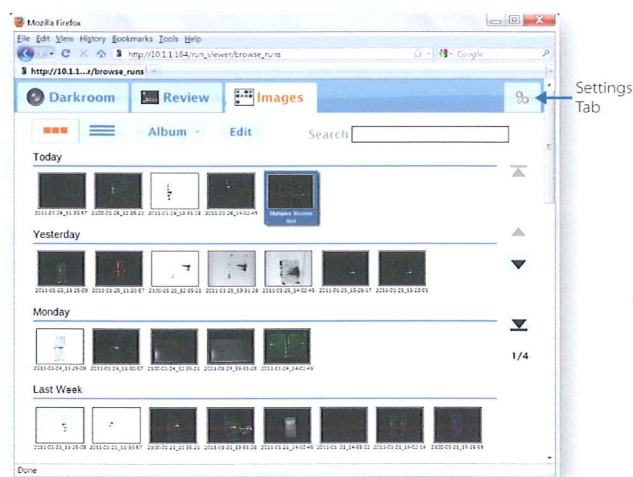

Figure 7
2. Enter the URL or current IP address for the FluorChem system in the browser. URL and IP addresses can be found on the **Settings** tab. The browser will expand the URL and display the **Images** tab (Figure 7).